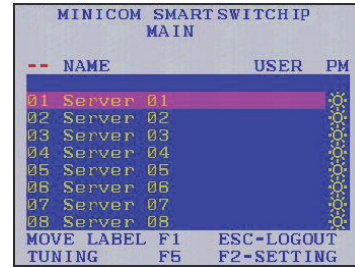

Figure 6 OSD Main window
1. From the local keyboard, press **Shift** twice. The OSD Main window appears. See Figure 6.